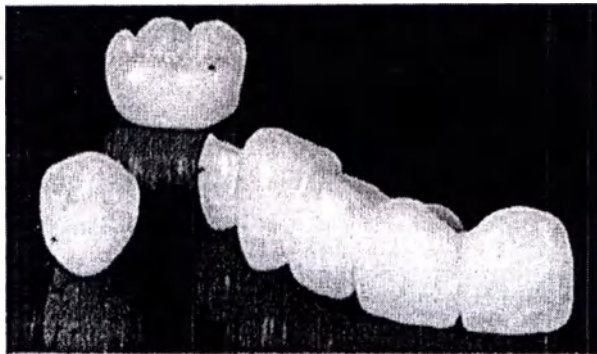

Fig. 16
- 13) Then apply dental ceramics to the framework and place the framework into the furnace for firing. Polish the framework, when needed (Fig. 16).